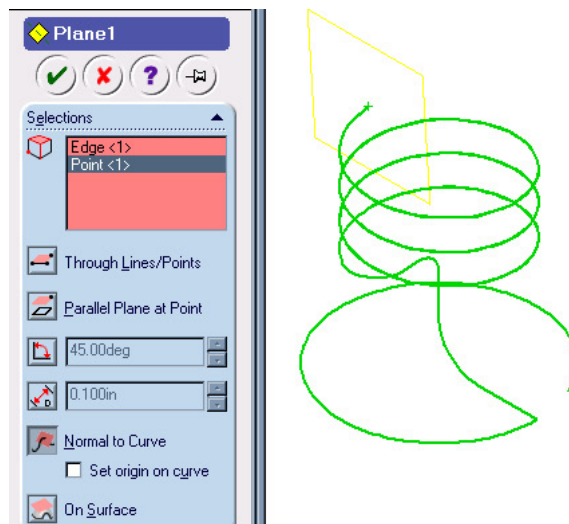

Figure 10 Profile Plane parameters.
32. Click **Normal to Curve**  in the dialog box, and then select the Composite curve and the upper end point on the composite curve in the graphics area. Preview of the plane will appear as shown in Figure 10.